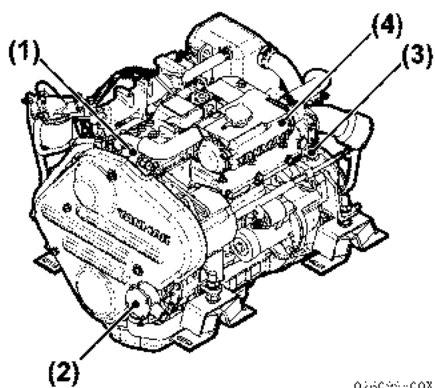

Figure 7-8
1. Loosen the seawater pump cover (Figure 7-8, (2)) to allow water to drain. See *Seawater Pump* on page 7-17.